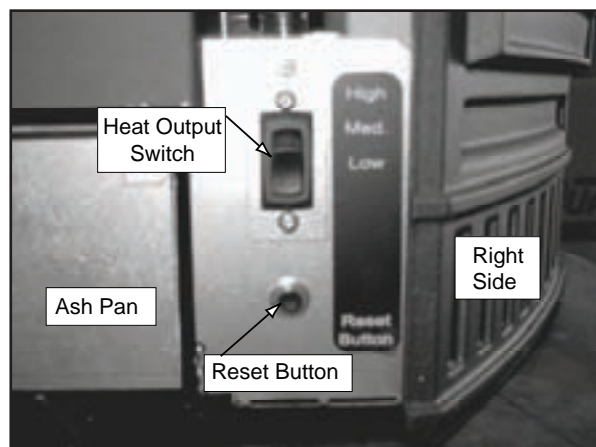

Figure 25.1
3. Locate the heat output control switch behind the right face on the lower right side of the firebox. Set to the HIGH setting and then adjust the thermostat to its highest setting. The red call light will be on which is located on the top of the junction box behind the right cast side. This indicates the thermostat is calling for heat. **Figure 25.1.**